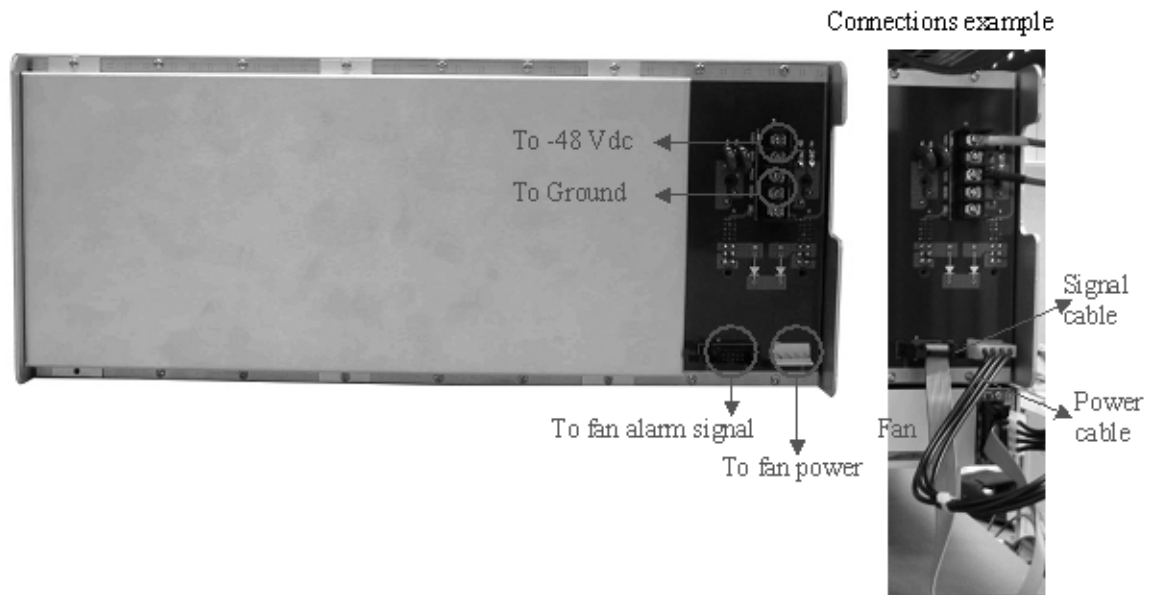

Fig. 3-1 OLT -48 Vdc connection and OLT shelf / Fan shelf power and alarm signal connection example
- Provide the power supply that meets the requirement described in Chapter 2. Connect -48 Vdc power cables to the screws of OLT shelf backside as shown in Fig. 3-1.
- For connection between OLT shelf and Fan shelf, use the alarm signal ribbon cable and power cable that are shipped with OLT together (See the connection example in Fig. 3-1).